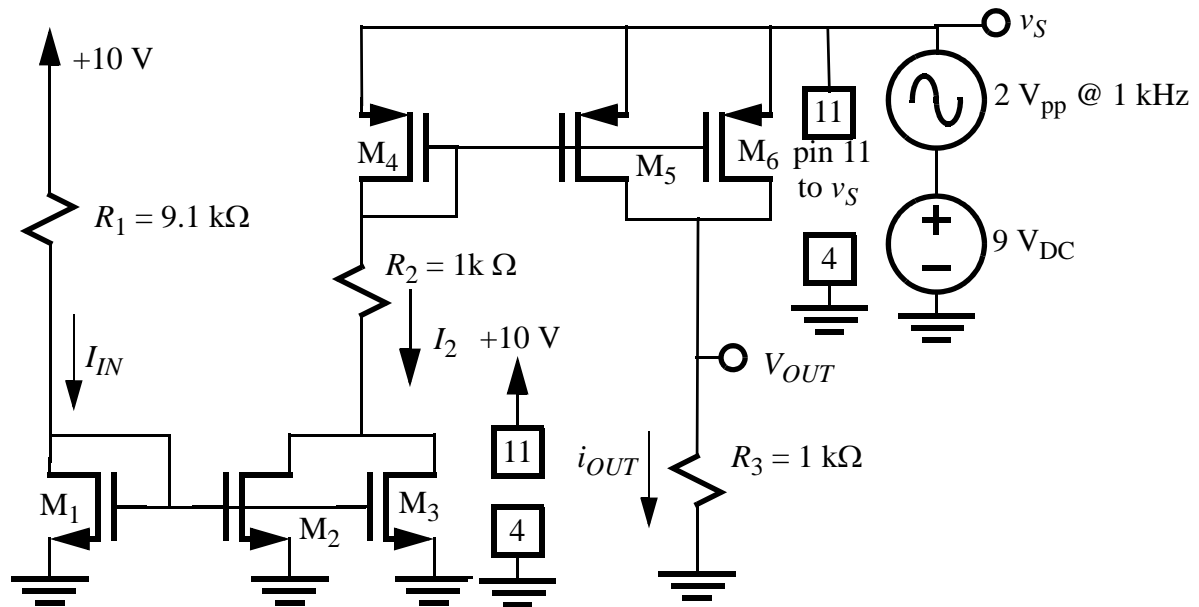

Figure 6) Power supply noise and current source behaviour.
- Investigate power supply rejection. To do this, connect the sources of the PMOS mirror to a 1 V_p, 1 kHz sine wave in series with a 9 V_{DC} source, as shown in Fig. 6. Display v_s and v_{OUT} on the oscilloscope and record them using a scope capture in a file labeled PSRR.png (save the file as a portable network graphics file or “.png” file). Determine the amplitude of the 1 kHz sine wave on both v_s and v_{out} . These signals are known as the **supply ripple** and the **output ripple** respectively.